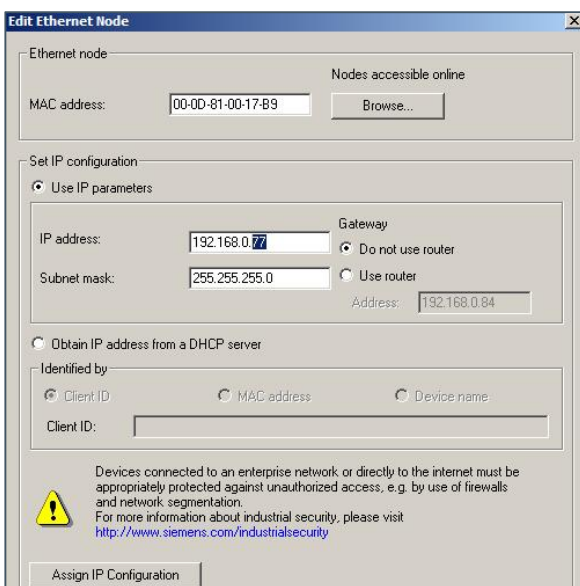

Figure 70: Assign IP address of gateway manually
- 1) Edit the **IP address** as required and click **Assign IP Configuration** (see: Figure 70: Assign IP address of gateway manually).